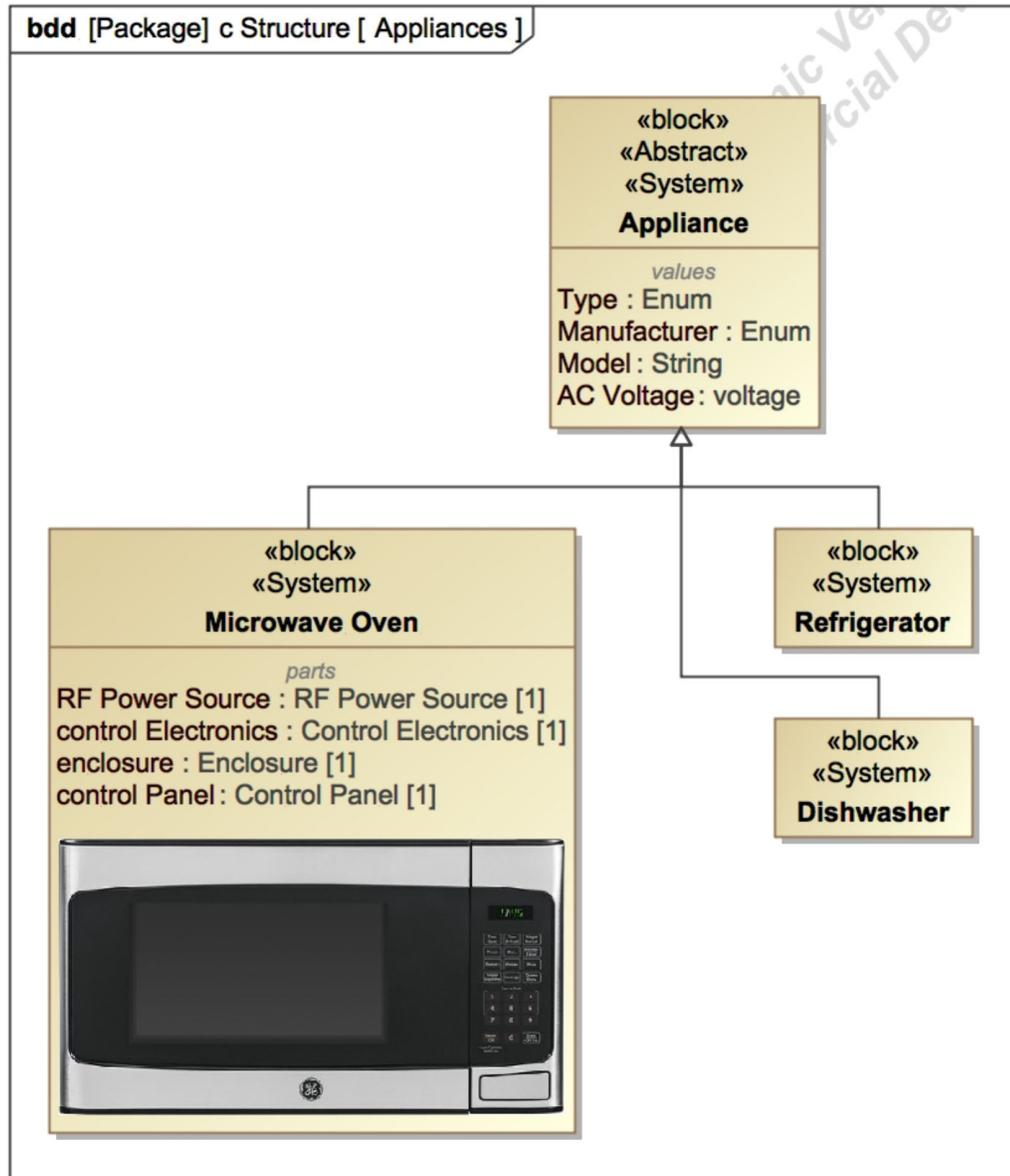

Figure 16. BDD with Generalization Relationships
- It’s very common for Blocks to inherit characteristics from more abstract Blocks, meaning that a “child” Block has the same characteristics (Properties, Operations, Constraints, etc.) as the “parent” Block. In fact, a Block can inherit from more than one parent, and specific inherited characteristics can be overridden. The child Block is then given additional, more specific characteristic that make it unique. The parent Block classifies or types the child Block. Fig. 16 shows the microwave oven inheriting from a generic Appliance Block that has Values any
- Drag the image to a blank area of the Diagram or to a Shape within the Diagram and resize to fit the space. Fig. 16 shows an example.